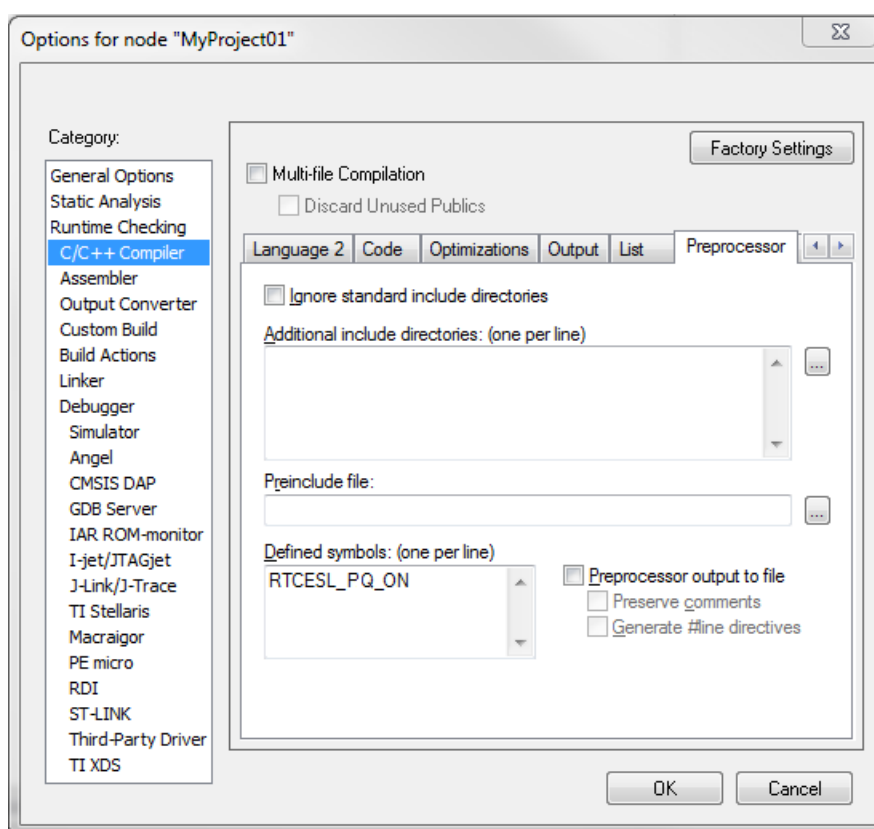

Figure 1-29. Defined symbols
4. In the text box (at the Defined symbols: (one per line)), type the following (See Figure 1-29):